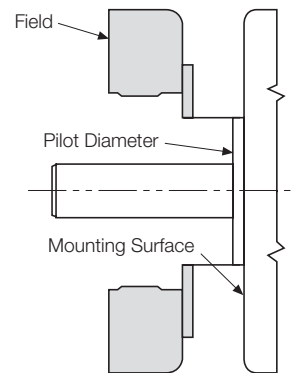

Figure 2
1. A pilot diameter on the mounting surface is essential to hold the magnet within the required tolerances. (Figure 2)